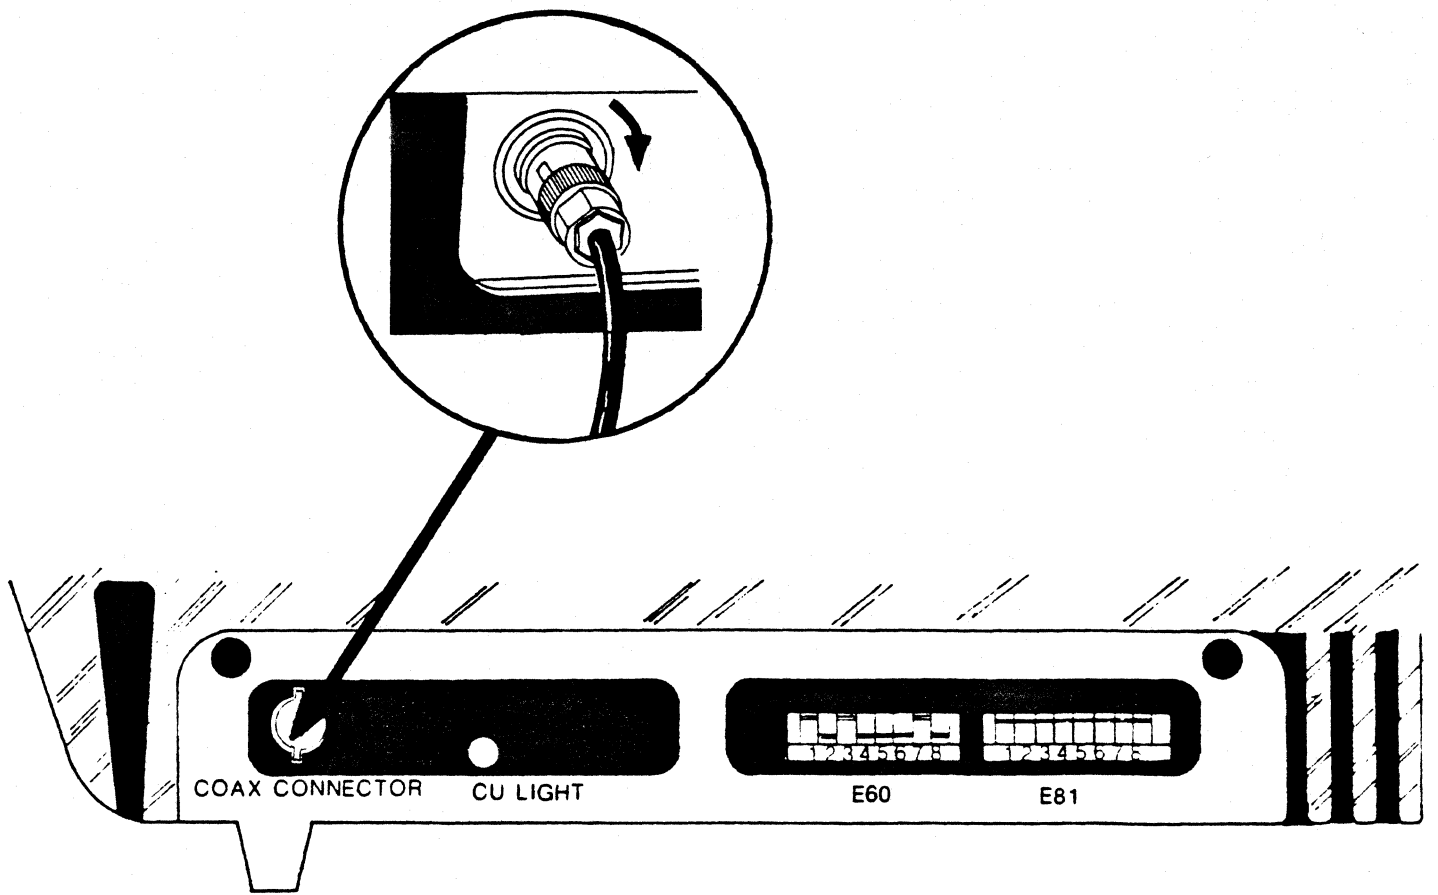

Figure 7-1 Connecting the Coaxial Cable
4. Push and lock (twisting clockwise) the cable connector into the printer connector as shown in Figure 7-1.